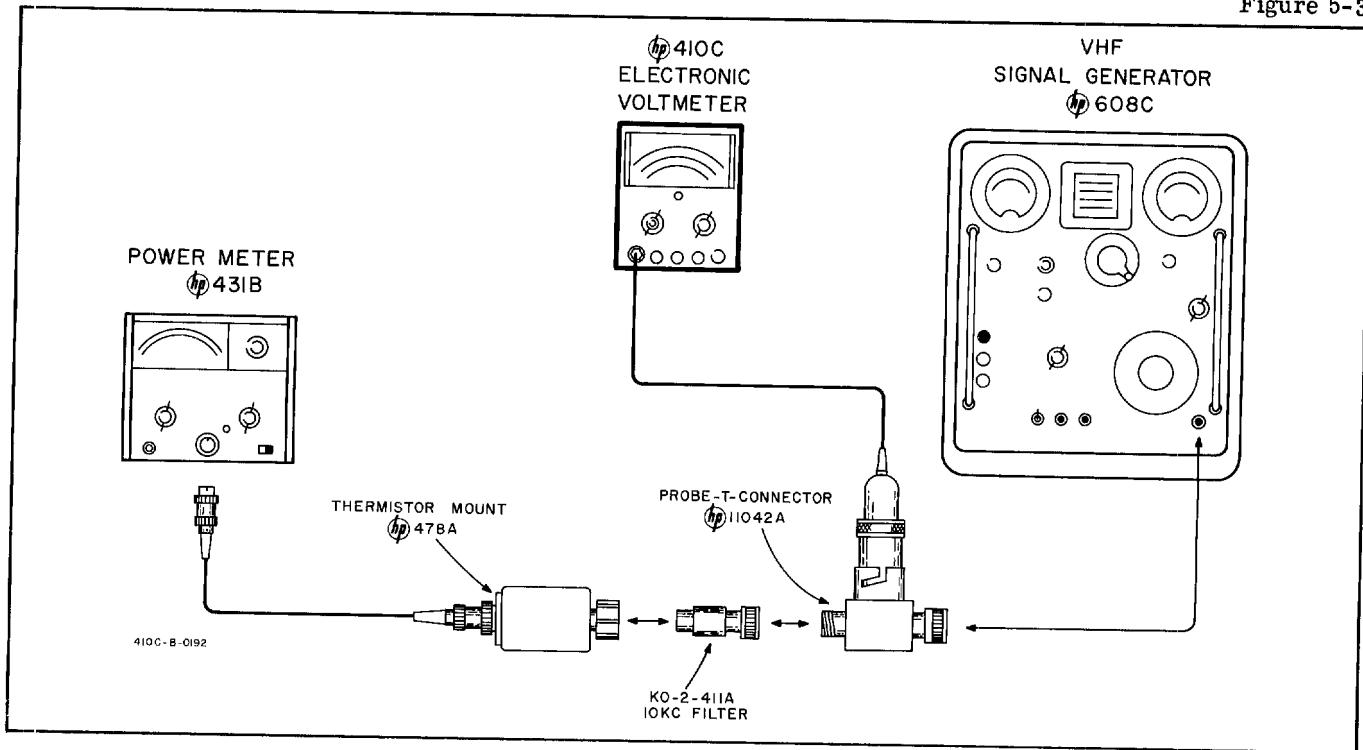

Figure 5-3. High Frequency Response Test
- a. Figure 5-3 describes the test arrangement required for this operation. Do not place Model 410C AC Probe in T-Connector at this point.
- A Frequency Response Test Set (Model 739AR), a Test Oscillator (Model 651A), an RF Signal Generator (Model 608C), a Power Meter (Model 431B), a Thermistor Mount (Model 478A), a Probe-T-Connector (Model 11042A), a VHF Signal Generator (Model 612A) and a 10 KC Filter (Model K02-411A) will be required for this operation. Figure 5-3 and 5-4 describe the arrangement to be used.
- h. To check Model 410C frequency response from 10 Mc to 480 Mc, use arrangement described in Figure 5-3.